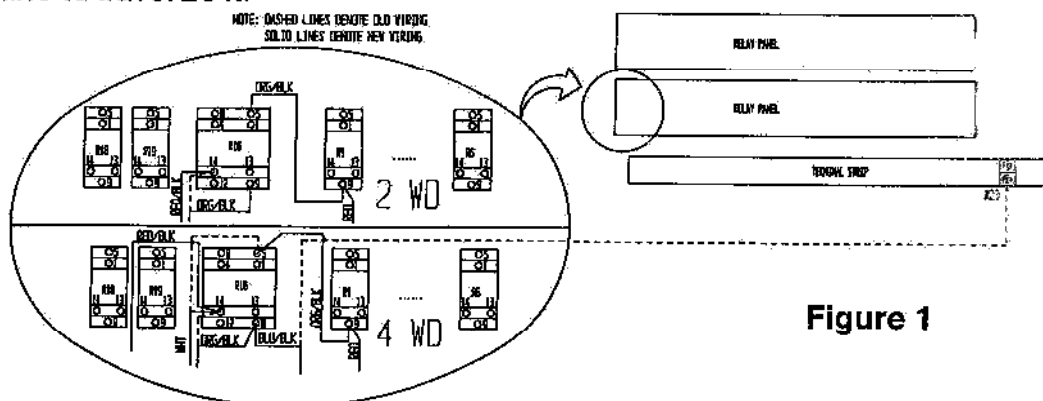

Figure 1
PROCEDURES for Serial Numbers 1000 through 2746 only: Read all instructions thoroughly and refer to Figures 1 - 5 before starting.
- D. Move the blue/black wire from Terminal Strip #23 to Terminal #9 of R16. See Figure 1.